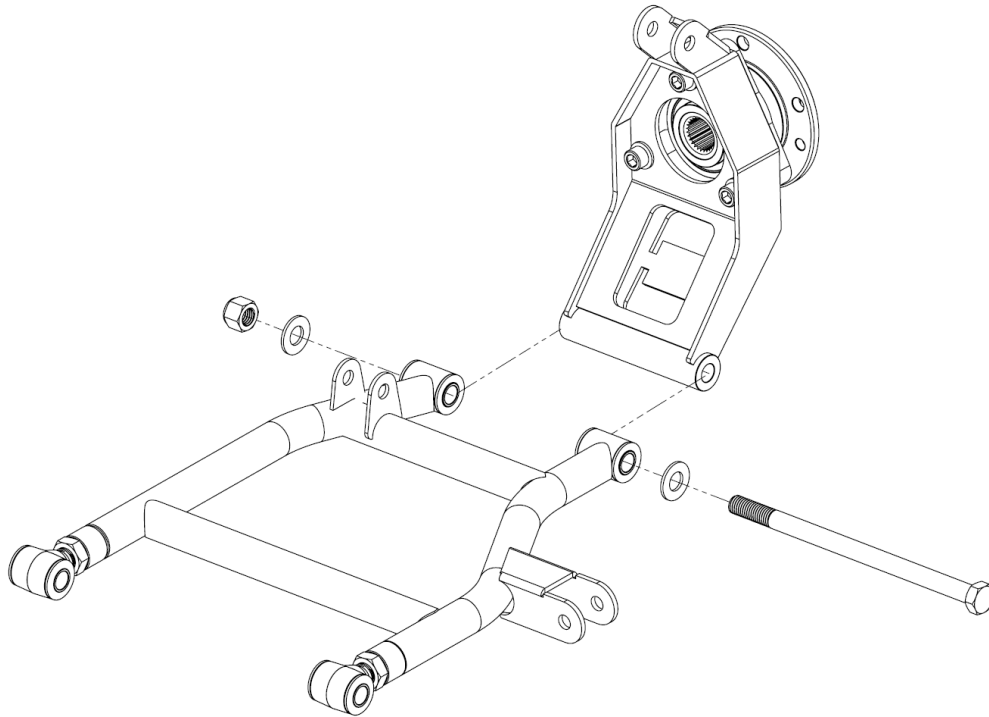

Figure 4. Assemble the upright to the lower arm using the 5/8 X 10-1/2" bolt and hardware.
- 6) Assemble the uprights to the lower control arms using the supplied 5/8" X 10 1/2" long bolts. A washer should be used on the outside of the bushings as shown in Figure 4.